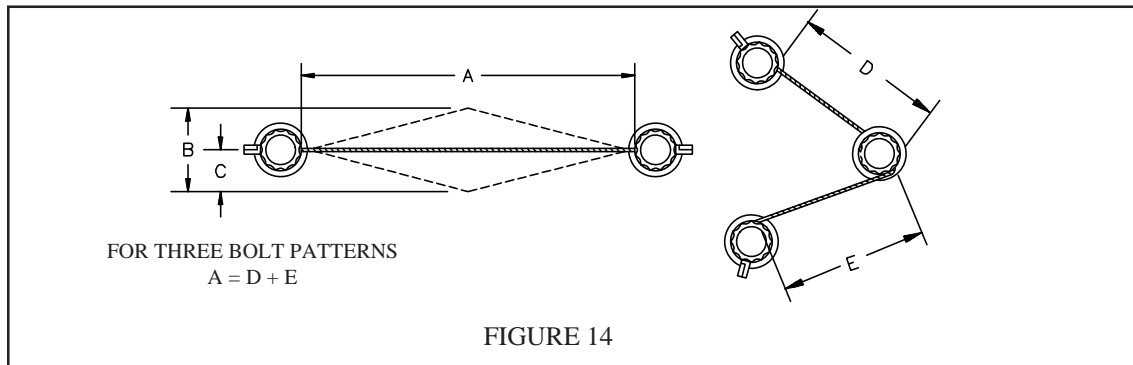

FIGURE 14
- 4.1 Verify proper tension of the cable. Refer to table 1, figure 14 for Safe-T-Cable® flex limits.